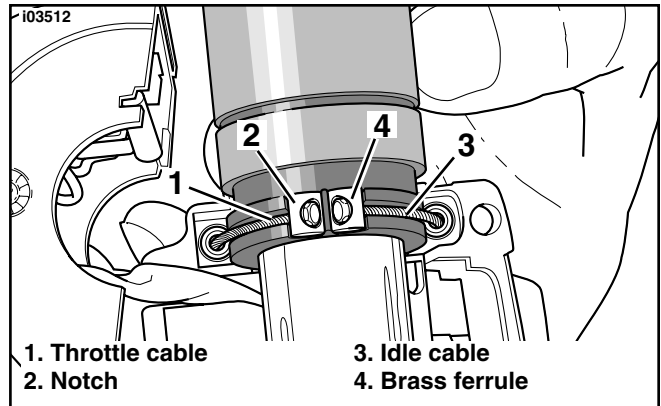

Figure 4. Throttle/Idle Control Cables
9. See Figure 4. Remove the brass ferrules from the notches on the inboard side of the throttle control grip. Remove the ferrules from the cable end fittings. Remove the grip from the handlebar.
30. Refer to Figure 4. Apply graphite lightly to the throttle grip inside the switch housing and on the throttle end of the handlebar.
35. Refer to Figure 4. Position the lower switch housing beneath the throttle-control grip. Install two brass ferrules from the throttle/ idle cable kit onto the cables, seating the ferrules in their respective notches on the throttle control grip. The cables must be captured in the grooves molded into the grip.